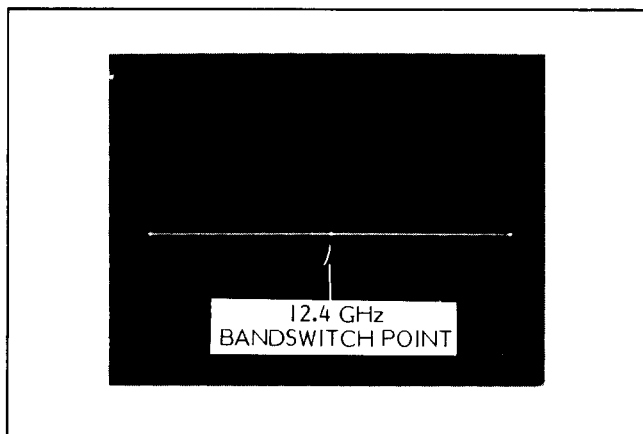

Figure 5-20. Bandswitch Dwell Signal
3. Adjust the oscilloscope vertical controls to obtain a horizontal trace, as shown in Figure 5-20.
4. Adjust A5R13 on the Frequency Instruction PCB to center the 12.4 GHz bandswitch point on the oscilloscope display (Figure 5-20).